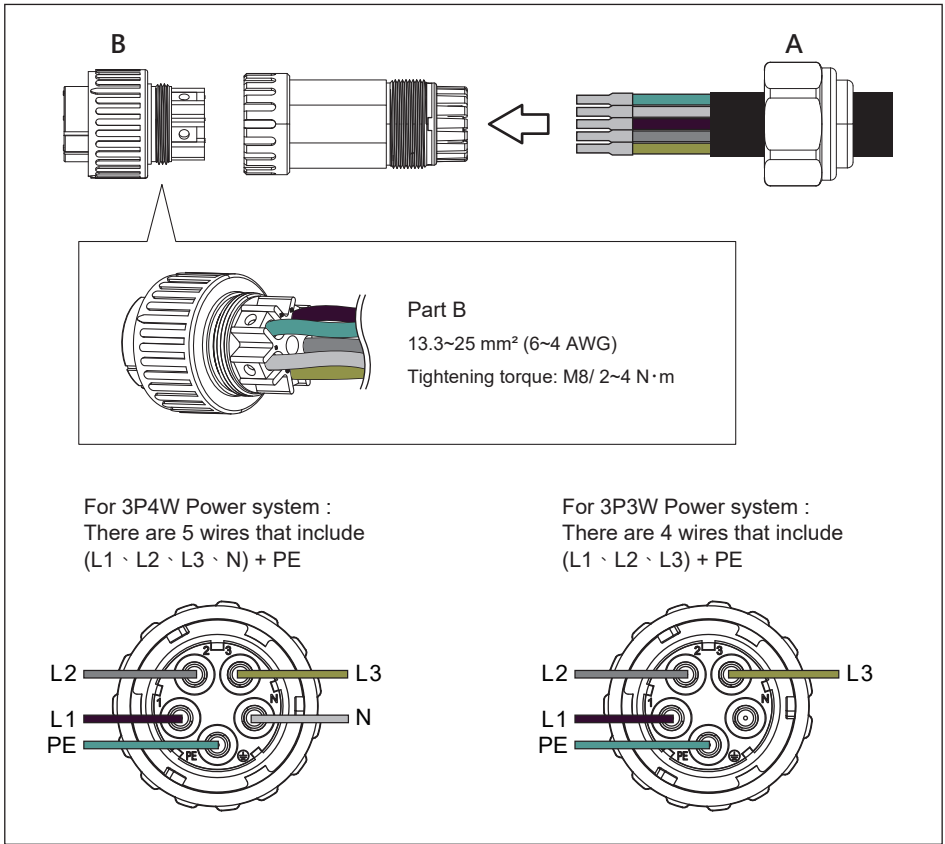

Figure 3-11 : AC wiring
2. Insert the cable into Part A (AC gland), and fix the internal wires (tighten by $\Phi 4.0\text{mm}$ wrench with 2.0~4.0 N·m torque) into Part B. (**Figure 3-11**)